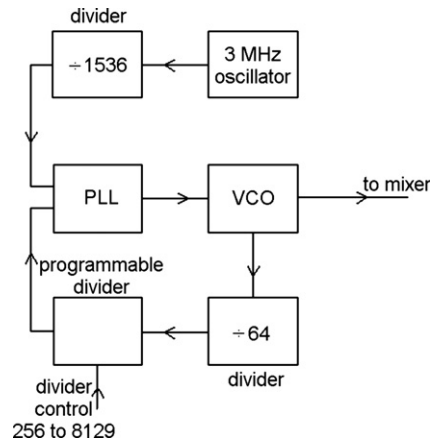

Figure 11.8:
A very different application of digital methods is illustrated in Figure 11.8, which shows a **frequency synthesizer** such as was used on analog television receivers and in a simpler version for frequency-modulated (FM) receivers as a local oscillator for the superhet action. This, strangely enough, depends for its action on an **analog** circuit called a **phase-locked loop** (PLL), which compares the phases of two input signals of about the same frequency and whose output is a voltage whose size depends on the amount of phase difference between the input signals. If the input frequencies are different the output of the PLL is not a steady voltage, but if the frequencies are identical but with a phase difference, then the PLL output is a steady voltage.